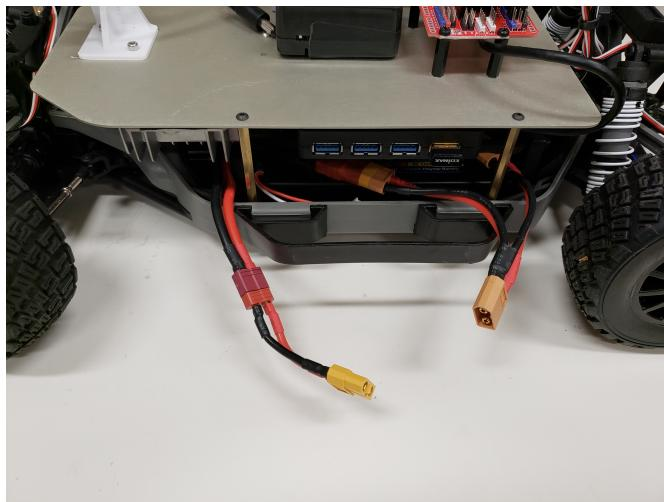

Figure 6: You should **ALWAYS** disconnect the battery power cable when you are not using your BARC car.
4. **Disconnect the battery power cable and the voltage monitor (Fig. 6).** Your battery should be disconnected whenever you are not using the BARC car. The voltage monitor should be disconnected as well since it will drain your battery when plugged in.
1. Disconnect the main battery cable from the BARC's electronics circuit. It should now dangle freely off the chassis, as shown in Fig. 6.